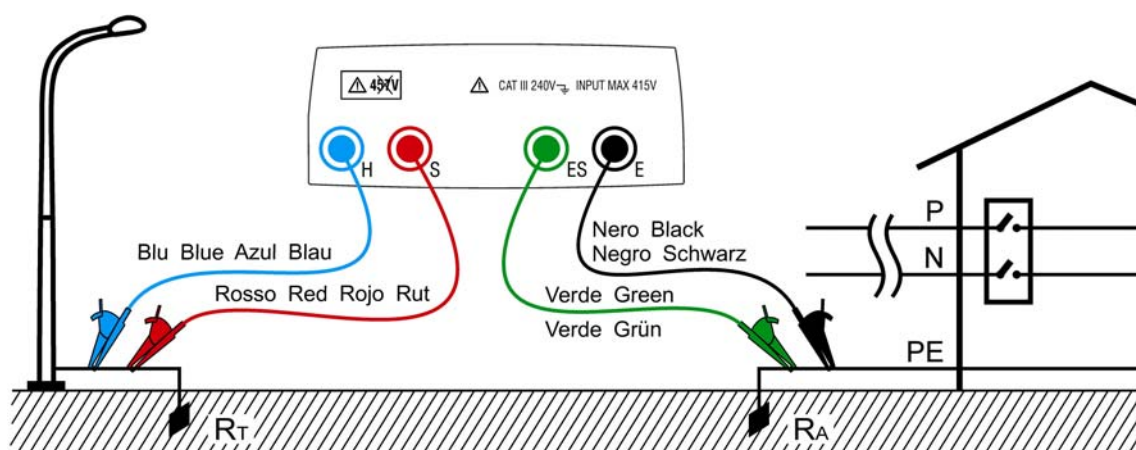

Fig. 3: Two-wire earth resistance measurement using an auxiliary rod
In Fig. 3 a lamp post is used as *auxiliary rod*, however any metal body driven into the ground can be used provided that the above mentioned requirements are met.
The instrument displays the sum value of $R_A + R_T$ as result (see Fig. 3 and Fig. 4). Therefore the measurement achieved is the closer to R_A (prospective value) the more negligible is the value R_T of the auxiliary rod with respect to R_A itself. In addition the measurement will be increased “for safety sake” by R_T , i.e. if $R_A + R_T$ results to be coordinated with protective conductors, R_A alone will be far more coordinated
6. Connect crocodiles to the auxiliary rods and to the installation under test (see Fig. 3 and Fig. 4)